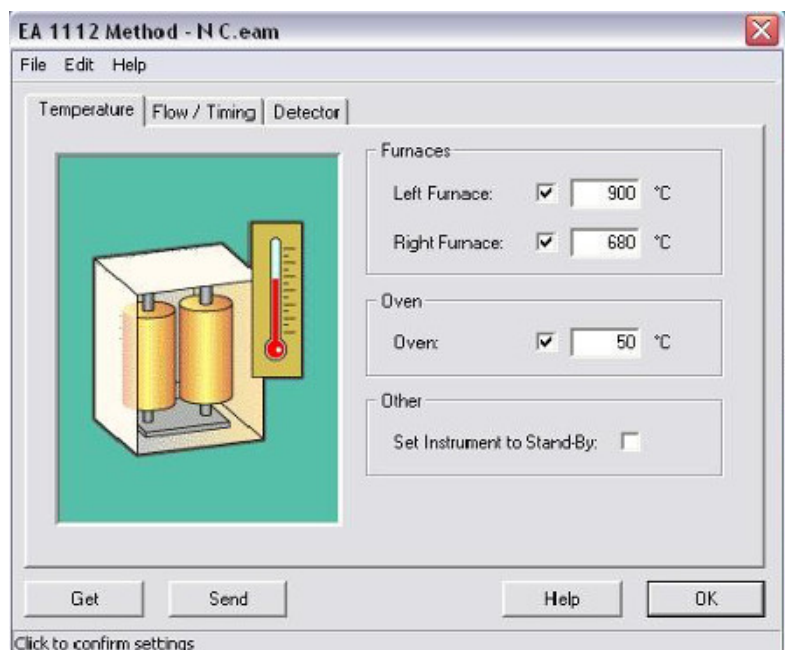

Figure 1. Flash EA 1112 parameters setup screen 1.
5. Heat up the instrument by opening up the "Edit Elemental Analyzer Parameters" and clicking on the "Send" button. The parameters should be as follows (See **Figures 1–3**):